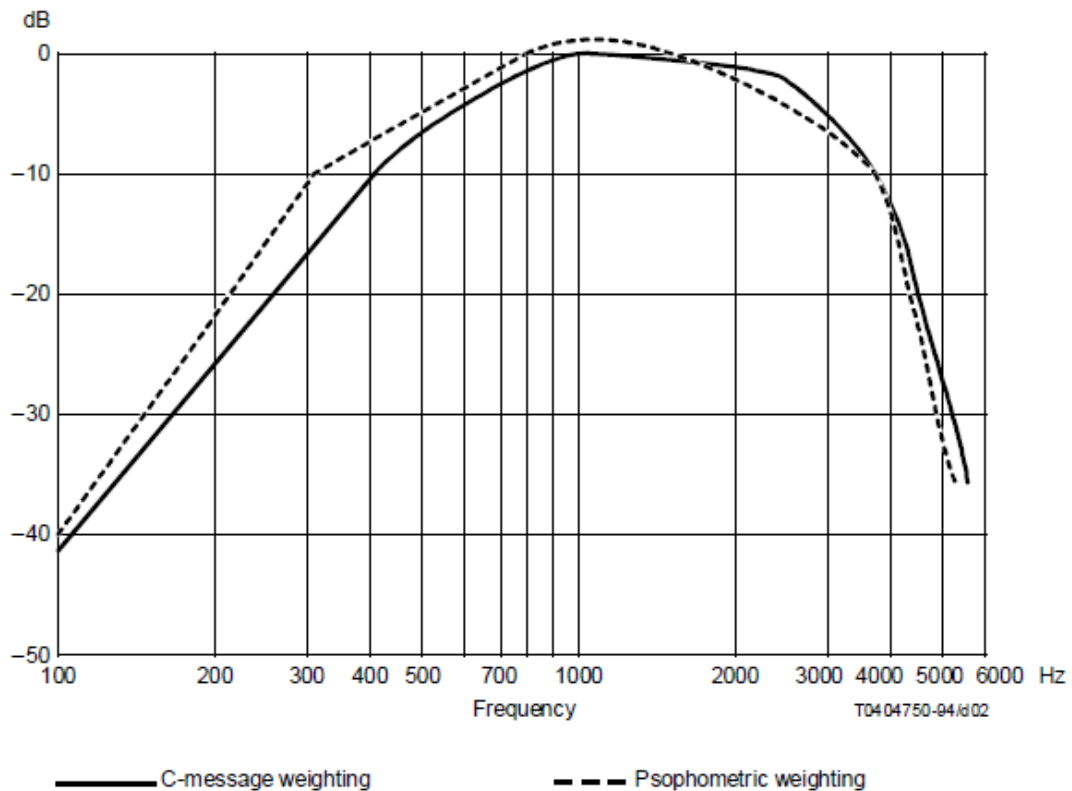

Fig. 7.100: Adding Auto and Cross-correlation
Clicking on “+” in the channel list opens the window for selecting the different math functions. Under the basic math functions there is the option to add a correlation (see Fig. 7.100 ). It is possible to choose between an Auto or a Cross-correlation. Then press the “Add” button in the bottom right corner of the window and a new correlation channel will automatically be added to the channel list under the specified group name (see ③ in Fig. 7.100).
The Auto-correlation (see ① in Fig. 7.100) mathematically describes the convolution of a signal with itself and is used to detect periodicity in signals, e.g. in modulated and noisy signals.
The Cross-correlation (see ② in Fig. 7.100) mathematically describes the convolution of a signal  $x$  with another signal  $y$ . The Cross-correlation is used e.g. to detect identical components in 2 different signals or to analyze the delay time between 2 signals.